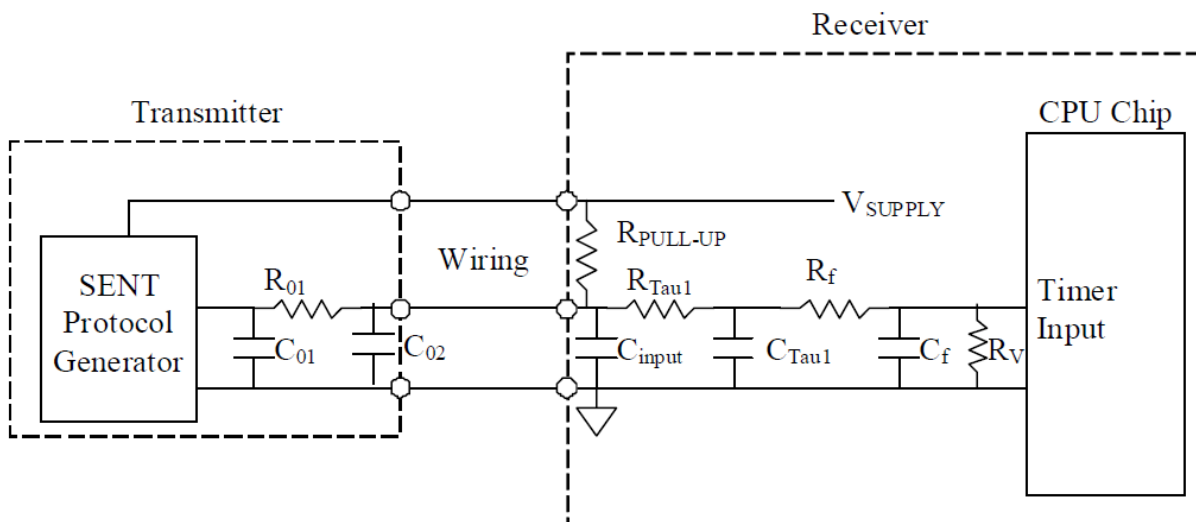

Figure 17 • SENT test topology
- 12-bit data and 8-bit message ID (configuration bit = 0, Fig. 17)